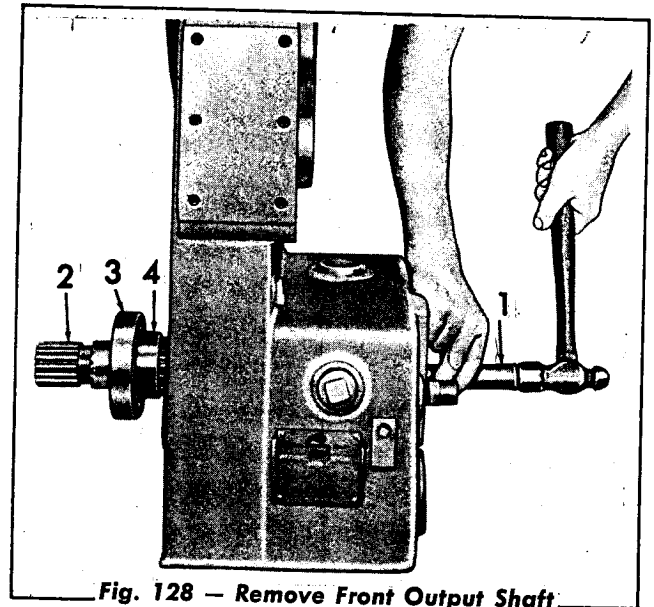

Fig. 128 — Remove Front Output Shaft
11. Using a hammer and a soft drift (Fig. 128), tap on the front output shaft and remove the shaft, the bearing, and the spacer. NOTE: Use a drift of approximately 1¼" diameter so that the drift will not enter the pilot bearing diameter of the front output shaft.